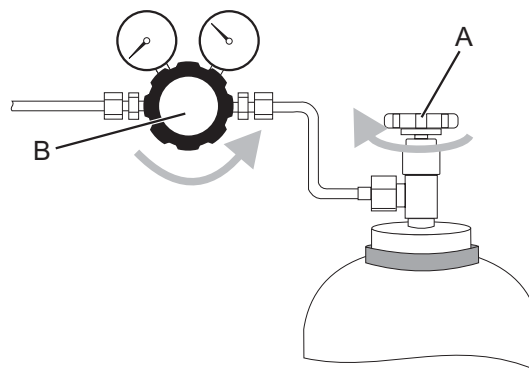

Figure 37: Turning off gases
1. Close the valve on the premix gas cylinder (see Figure 37, A) by turning clockwise to its stop.
2. Turn the valve on the premix pressure regulator (see Figure 37, B) counter-clockwise to its stop. This ensures that the pressure regulator is closed.